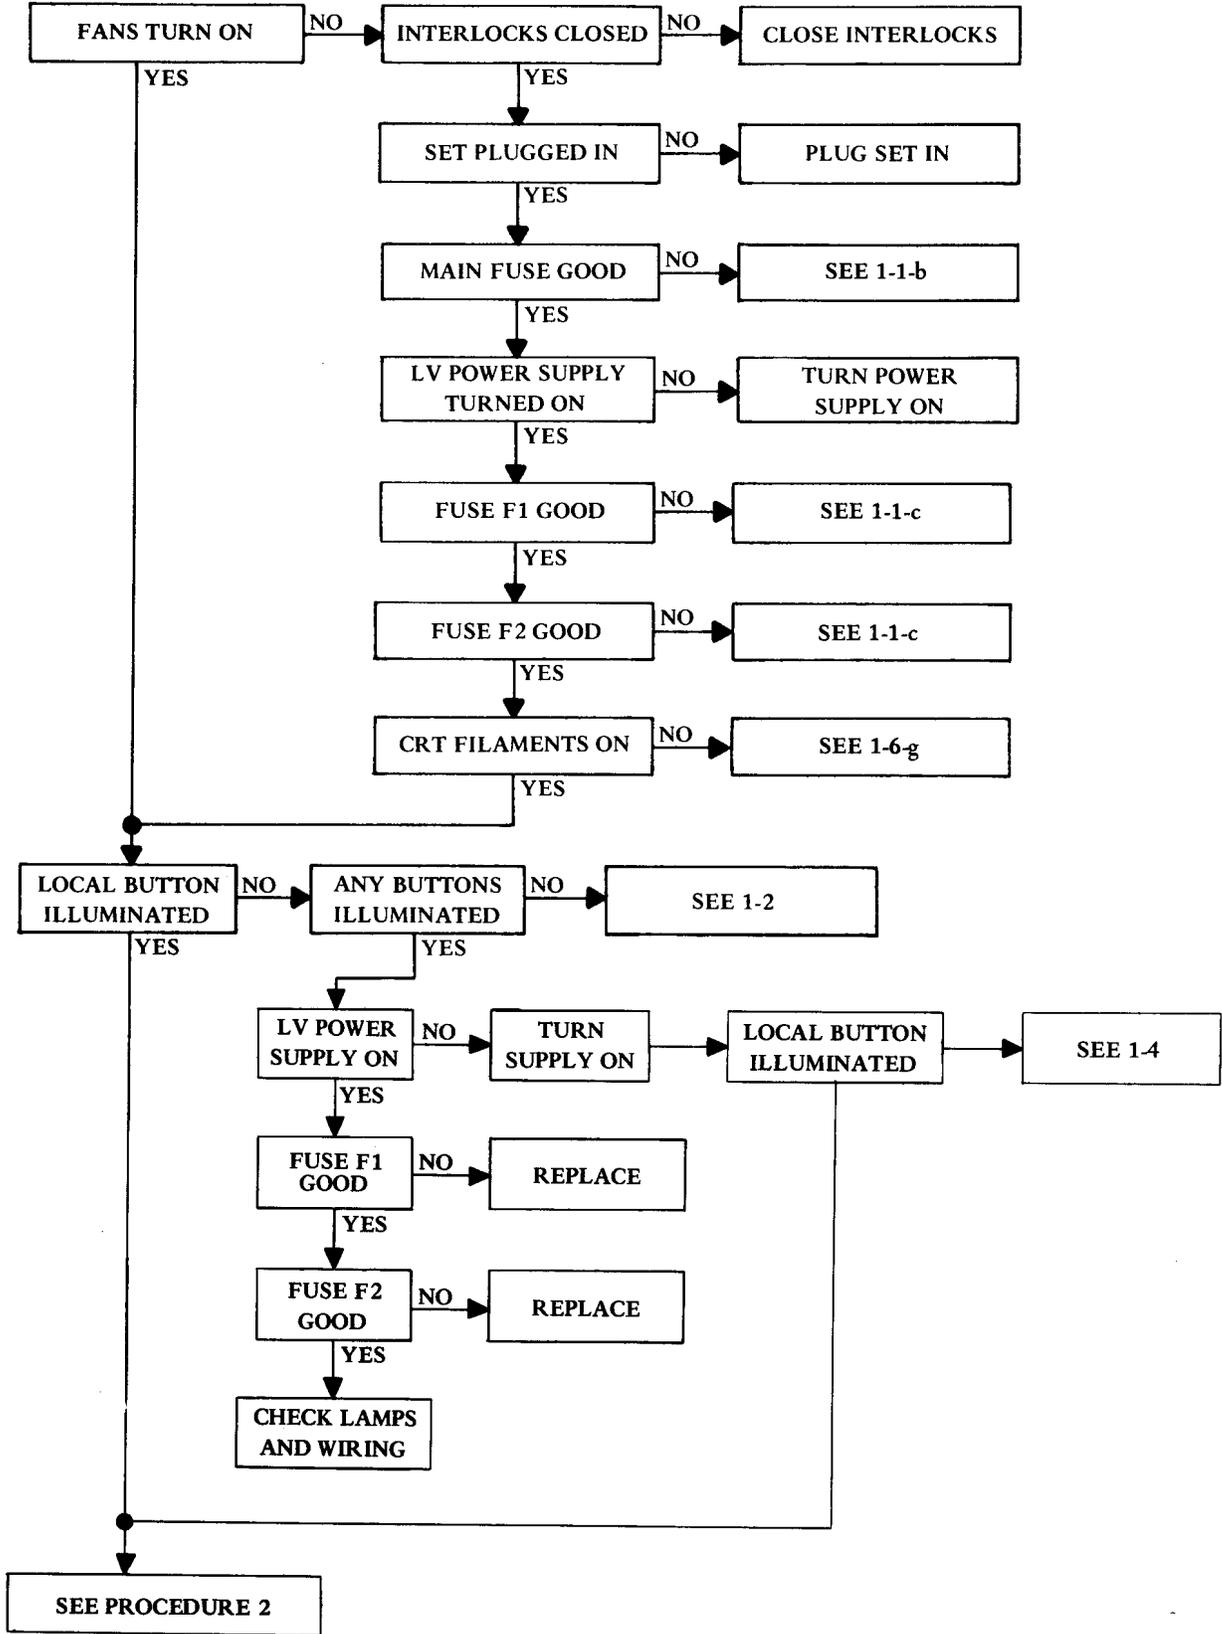

Figure 3 - Procedure 1
3.02 The trouble analysis is broken down into eight specific areas (Figures 3 through 10). Each area has a series of steps that should be followed in order to arrive at the cause of the trouble. The area in which the trouble occurs is the only one that has to be checked.